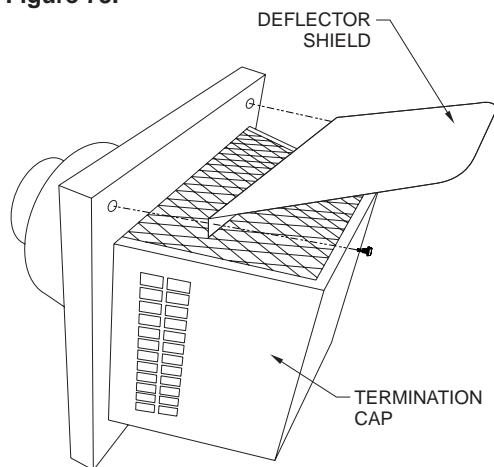

Figure 73
- Secure the termination cap to the house exterior using four 1/8 x 3 inch long screws. Be sure to install the Deflector Shield with the two screws at the top of the termination base. **See Figure 73.**